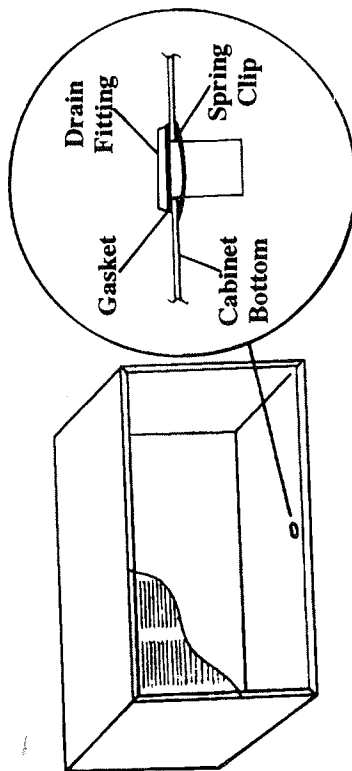

Figure 1.
1. Select and install kit parts per Fig. 1. Gasket must be between the drain fitting flange and the inside of the cabinet bottom.